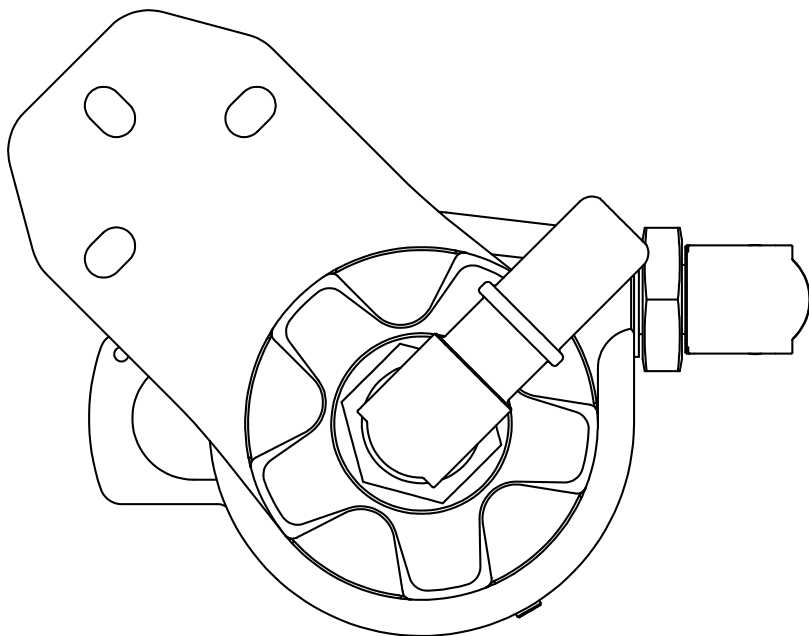

Figure 2 - Preparing the Adapter Fittings
- b. Position the fittings as shown in Figure 2.